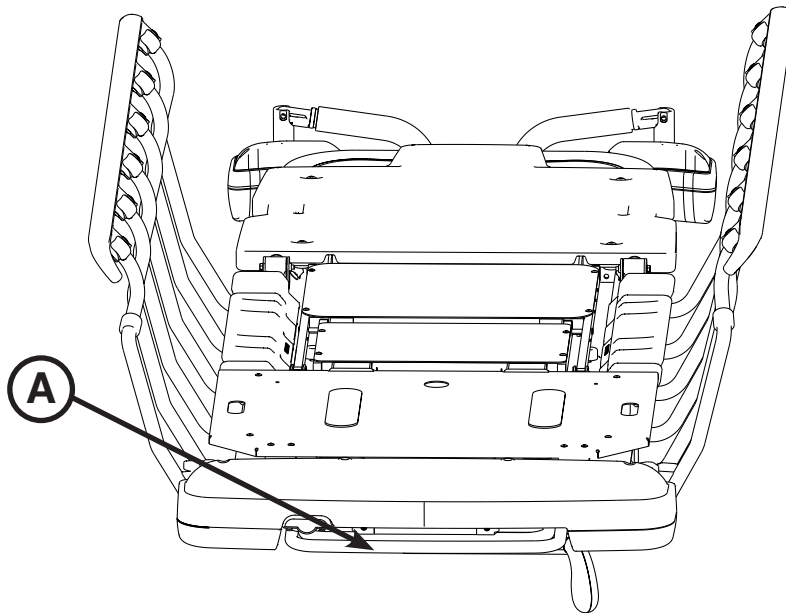

Figure 16: Pump Rack
The pump rack (A) can be used for the storage and transportation of stretcher equipment as shown in Figure 16.